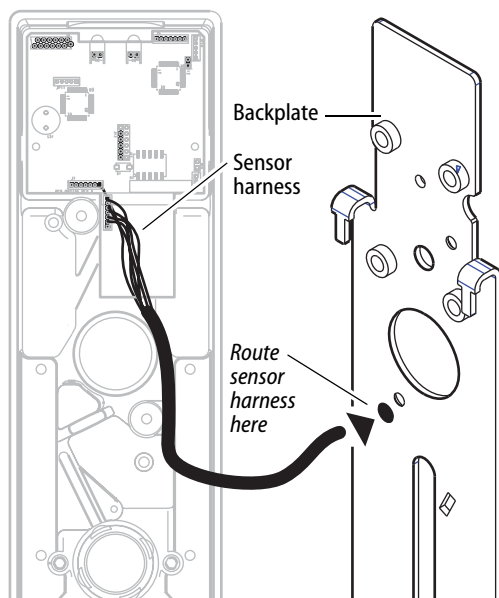

Figure 13 Re-routing the sensor harness for Precision 2200, 2700 and 2800 exit devices
- 4 Re-route the sensor harness around the cylinder hole and around the escutcheon boss, then out through the alternate wire-routing hole as shown in Figure 13.